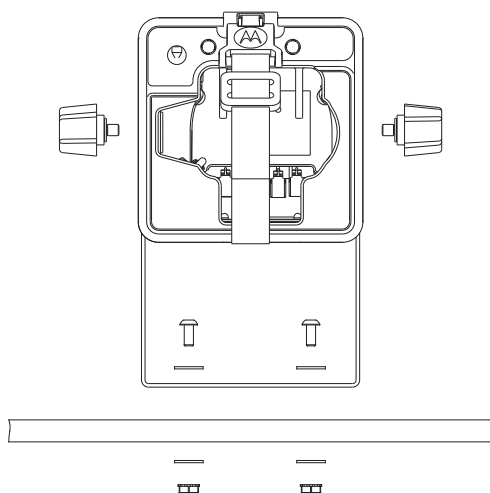

Figure 4 Installing the Vehicular Charger
4. Referring to Figure 4, mount the bracket using appropriate screws, washers, lock washers, and nuts.
5. Insert the unit into the bracket, and install the washer and threaded knob into the housing, as shown in Figure 4.